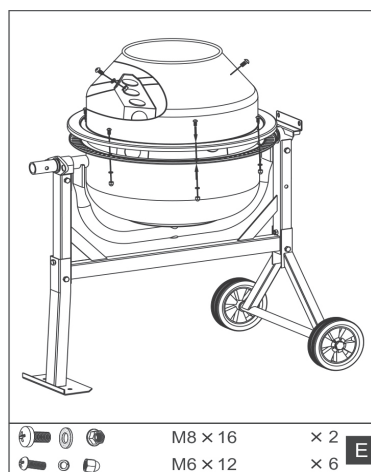

Fig.9
6. Place the sealing ring on the lower part of the drum. Next, place the upper drum unit on the lower mating unit. The arrows on the drum units indicate the correct positioning of the halves and must point towards each other. The assembly openings of the mixing blades inside the drum must be in a vertical line. If not, the blades cannot be mounted. Screw the two units together using six M6 x12 bolts, washers and nuts. Then screw the mixing blades to the upper unit of the drum and use type M8x16 and one leather washer each. Tighten all screws (E), Fig.9.